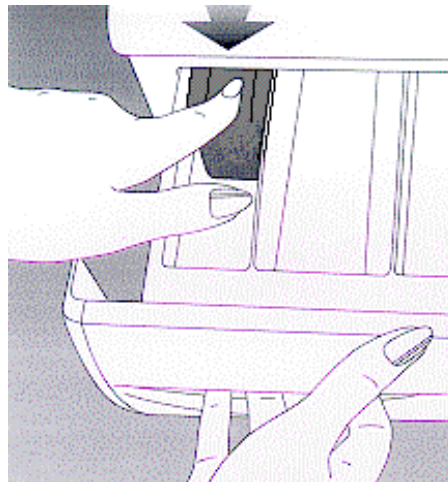

Figure-6
- The piece shown by the arrow is pressed and the drawer is pulled back (Figure-6).